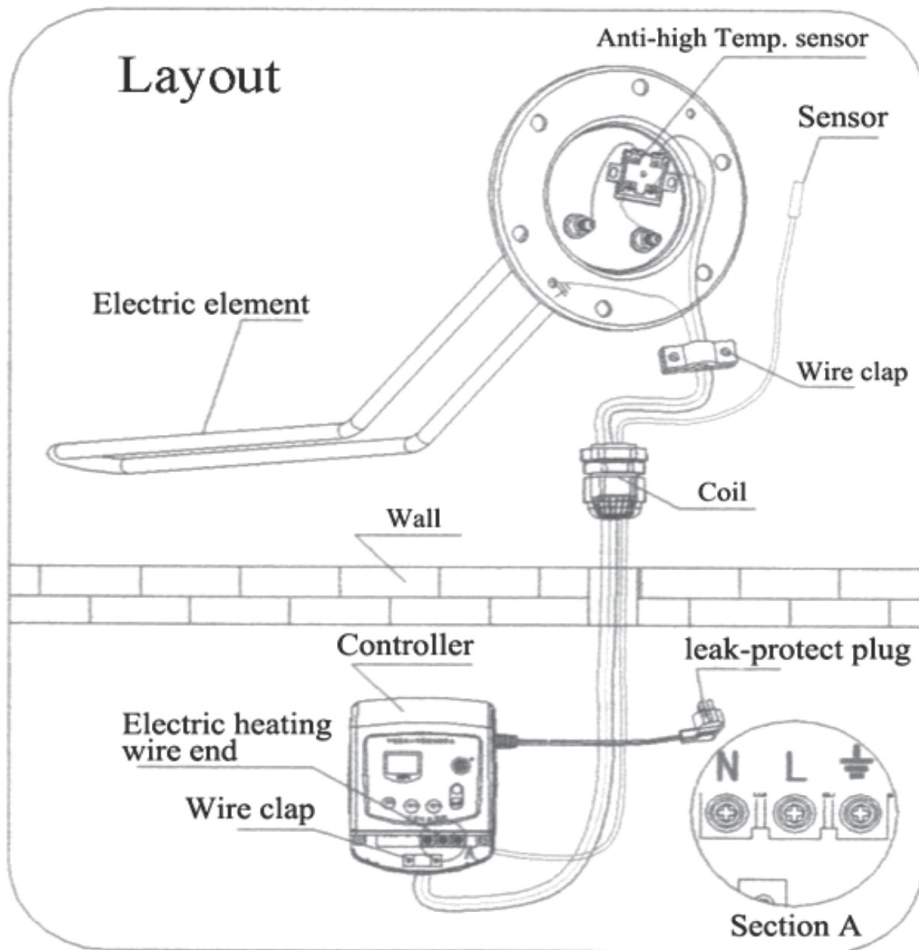
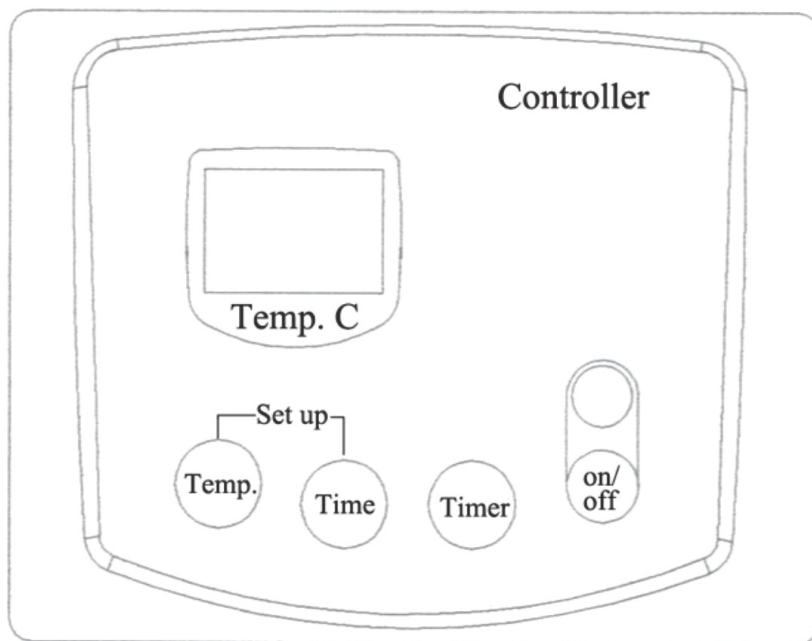

Fig.10
Fig.11
- ③ Use tri-wire plug of safe protection, and the rated current value of socket  $\geq 10A$
- ④ Safe measures should be taken and layout to specification.
- ⑤ Installing micro controller (Fig.10) Details see the manual of Micro Controller. Layout sees (Fig.10) and (Fig.11), See page 11 for details.